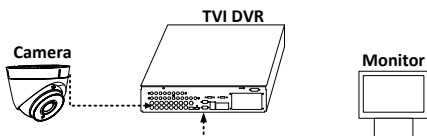

Figure 3-1 Connection
1. Connect the camera with the TVI DVR, and the monitor shown as the Figure 3-1.